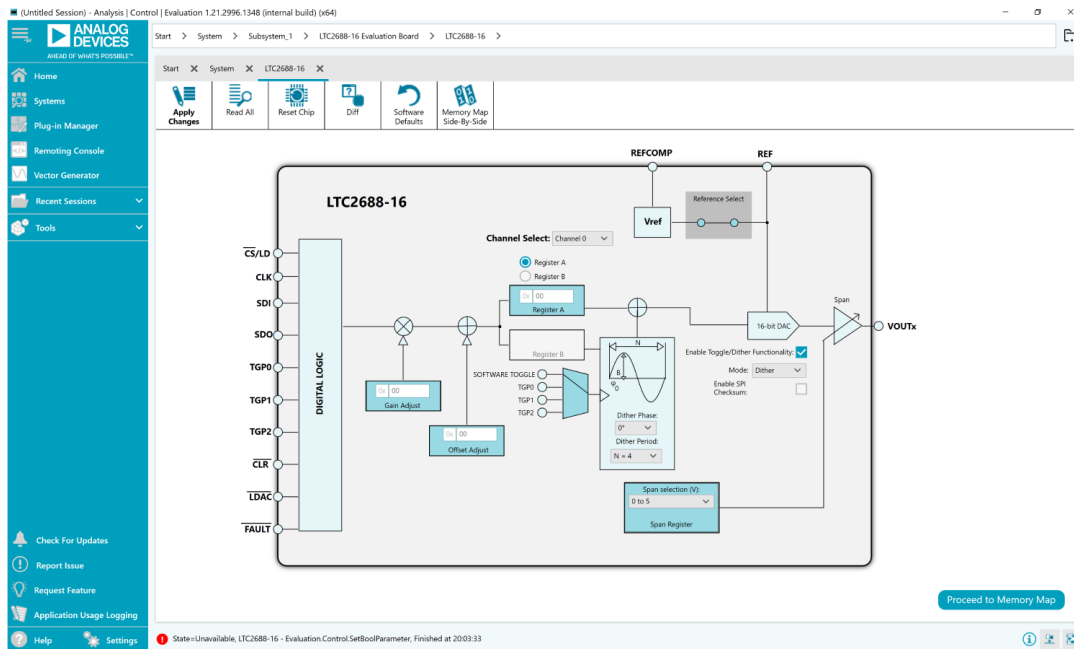

Figure 7. Dither View
Mode dropdown box to bring up the dither options (see Figure 7). The default values for the dither phase (ω_0) and period (N) are 0° and $N = 4$. The phase and period of the dither can be modified using the dropdown boxes to select from a fixed list of options.